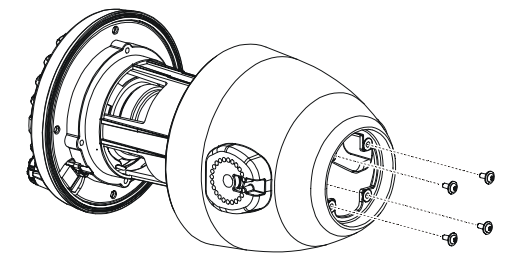

Figure 3
1. Remove the **MLS-310** from the bracket by removing the two Mounting Bracket Knobs, then remove the rear case of the **MLS-310** from the main body by removing the four screws (Figure 3.).